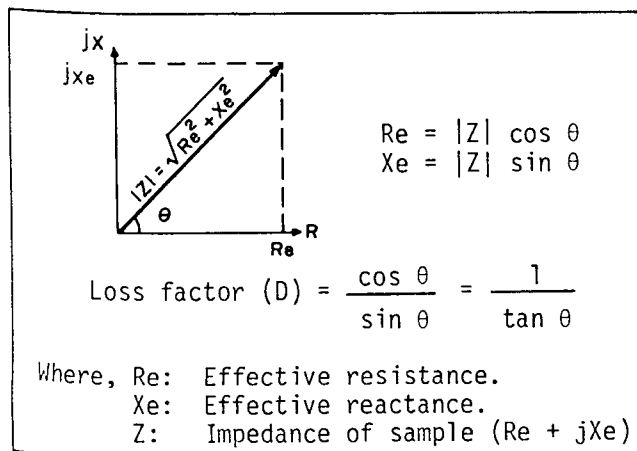

Figure 3-13. Impedance Vector Representation.
Impedance of a component can be expressed in vector representation by a complex number as shown in Figure 3-13. In such representation, the effective resistance and effective reactance correspond to the projections of the impedance vector  $|Z| \angle \theta$ , that is, the real (R) axis and the imaginary (jX) axis, respectively.